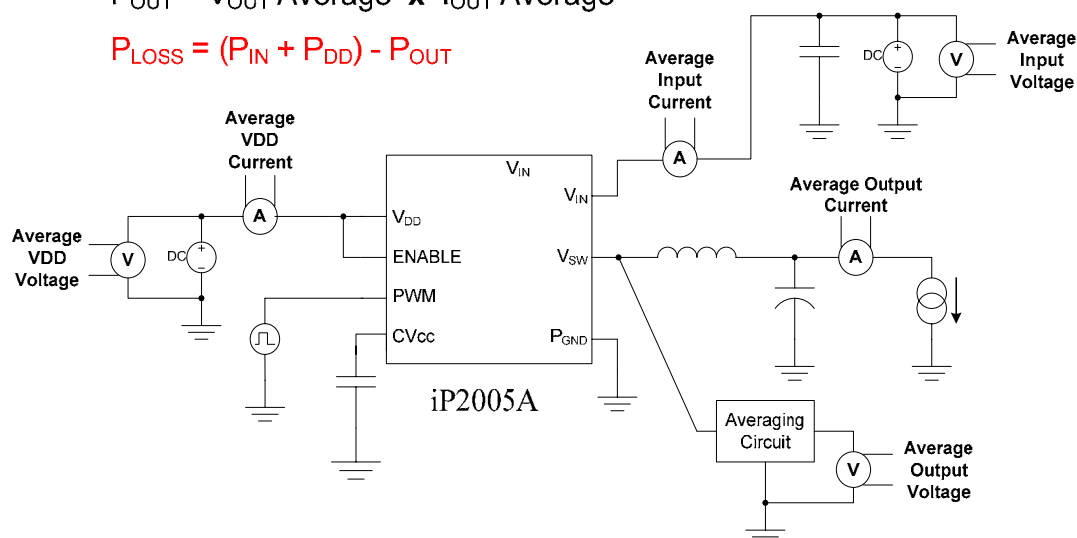

Figure 8 Power Loss Test Circuit
3. Measurement made with six 10 $\mu\text{F}$  (TDK C3225X5R1C106KT or equivalent) ceramic capacitors placed across VIN to PGND pins (see Figure 8)